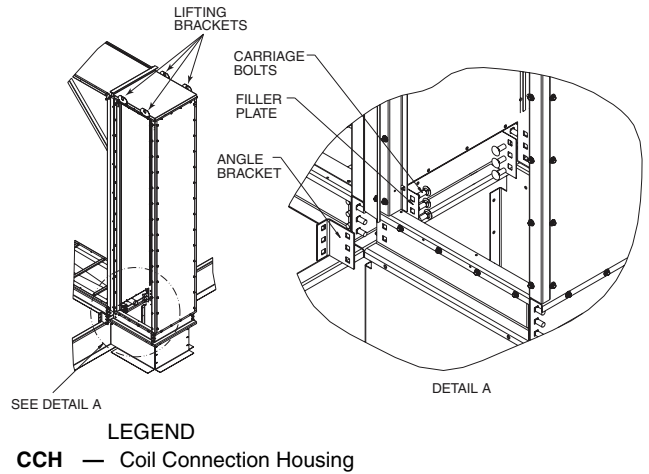

Fig. 59 — Positioning CCH
- a. Using the lifting brackets (shown in Fig. 59), lift the CCH into the vertical position and remove the shipping brackets (shown in Fig. 53).
- b. Using the lifting brackets (shown in Fig. 59) place the CCH on top of the CCH curb. Once in position there should be about a 2-in. gap between the unit wall and the CCH frame covered by the flashing.
11. Attach the angle bracket using the lifting lug nuts and washers; do not fully tighten. **DO NOT USE THIS PART FOR LIFTING THE UNIT.** See Fig. 59, Detail A.
12. Place the filler plate inside the CCH baserail, align the square holes with the pattern on the base rail and the angle bracket, then insert the 3 carriage bolts provided through the plate, base rail and angle bracket. Fully tighten with provided washers and nuts. See Fig. 59, Detail A.
13. Finish tightening the angle bracket to the unit base rail. See Fig. 59, Detail A.